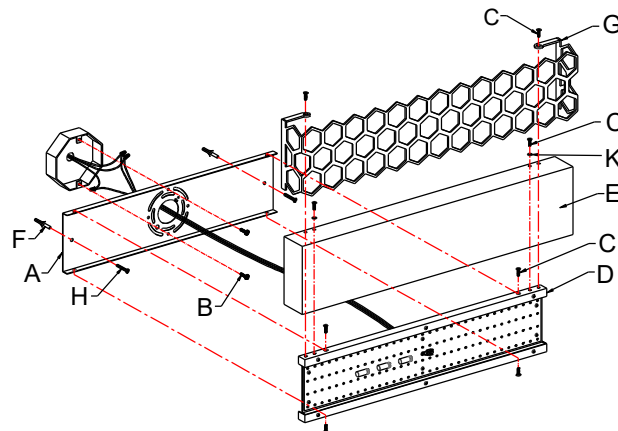

Fig. 2
CONNECTING THE WIRES (Fig. 2)
6. Connect the electrical wires as shown in Fig. 2, making sure that all wire connectors are secured. If your junction box has a ground wire (green or bare copper), connect the fixture's ground wire to it. Otherwise, connect the fixture's ground wire directly to the mounting plate (A) using the green screw provided.